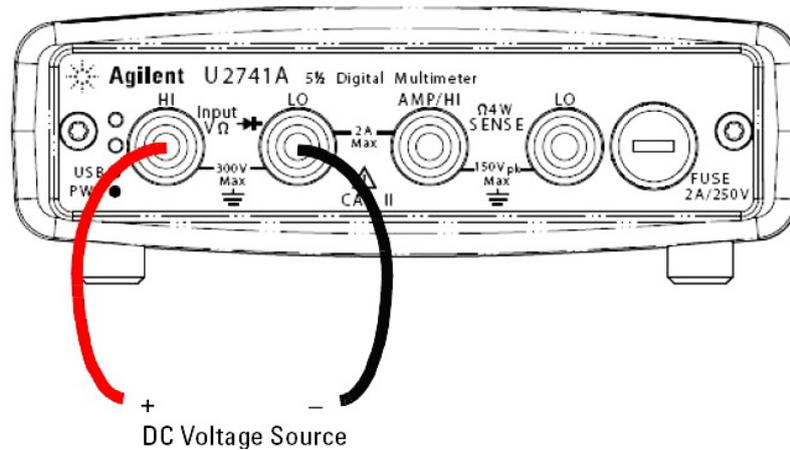

Figure C-2 – Measuring DC Voltage
2. Make the connection as shown in **Figure C-2** in order to measure DC voltage. You can control the U2741A via the **Agilent Measurement Manager (AMM)** software for U2741A or via **SCPI commands** sent through the USB interface from your own application programs.